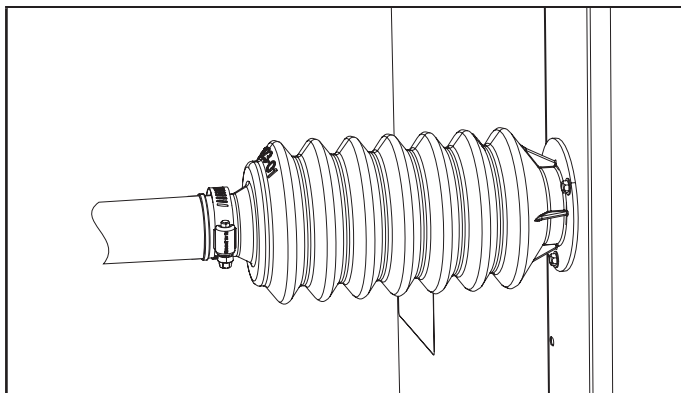

FIGURE 5. Band Clamp Installed on Sleeve
Connect the properly-sized field-provided liquid line to the liquid line stub as shown in figure 5 using the following procedures:
- 3 - Position the band clamp as shown in figure 5 and torque to 35 in-lbs to seal sleeve to line set.
- 2 - Position the band clamp as shown in figures 5 and 7 and torque to 35 in-lbs to seal sleeve to line set.